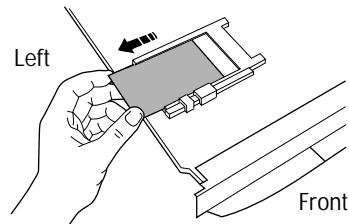

Figure 6. Removing Flash Card
3. Grasping the exposed end of the flash card, remove it from its housing, as shown in figure 6.